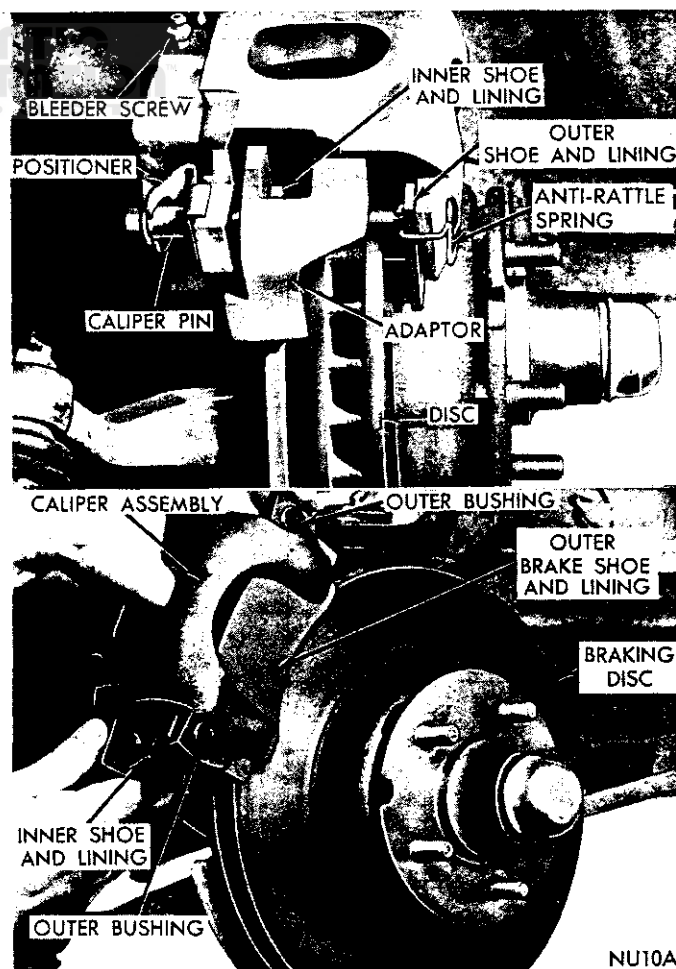

Fig. 7—Removing or Installing Caliper
(1) Raise vehicle on a hoist or jackstands.
(2) Remove front wheel covers, and wheel and tire assemblies.
(3) Remove caliper guide pins, positioners that attach caliper to adaptor and anti-rattle spring.
(4) Remove caliper from disc by slowly sliding caliper assembly out and away from braking disc (Fig. 7). Support caliper firmly so as not to damage flexible brake hose.